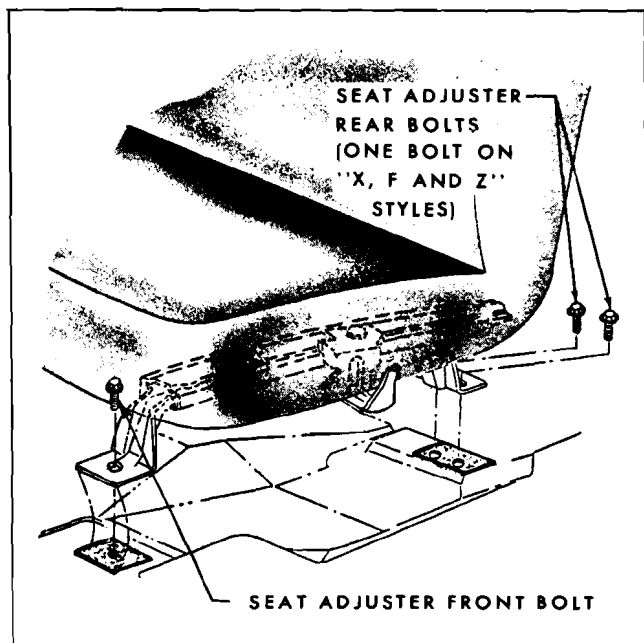

Fig. 15-3—Seat Adjuster Floor Pan Attachment - "A, F, X and Z" Body Full Width Seats
All seat assemblies are secured to the floor pan by either nuts installed on floor pan anchor plate studs or bolts installed into anchor nuts in the floor pan (See Figures 15-3, 15-4, 15-6 and 15-7).
4. At rear of adjusters, remove adjuster-to-floor pan rear attaching nuts or bolts (Figs. 15-3, 15-4 and 15-7).